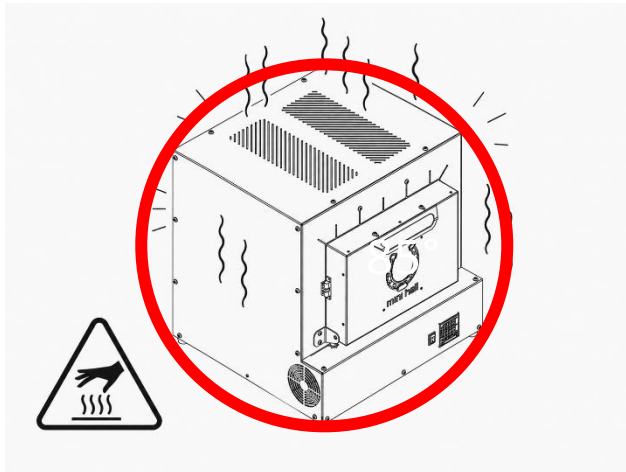

*Fig. 6 – Approximate temperature distribution
- 3) Hot housing surfaces – the risk of burns during normal furnace operation is low (temperature below 85°C). Figure 6 below shows the hottest areas of the housing during furnace operation, mainly near the door. The outside door cover also becomes hot.